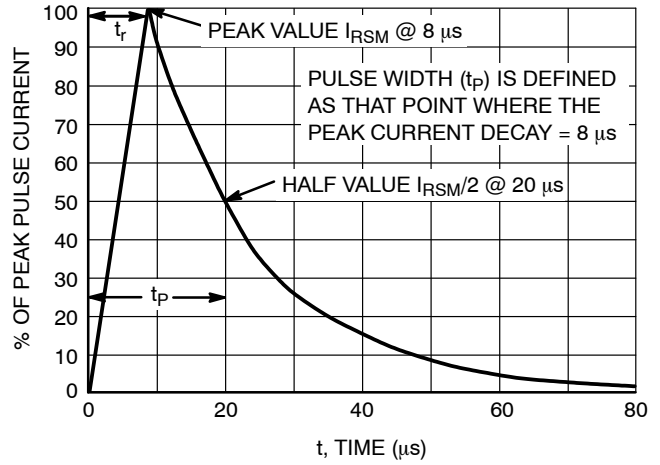

Figure 2. 8 \times 20 μs Pulse Waveform
1. Non-repetitive current pulse per Figure 2
5. Surge current waveform per Figure 2